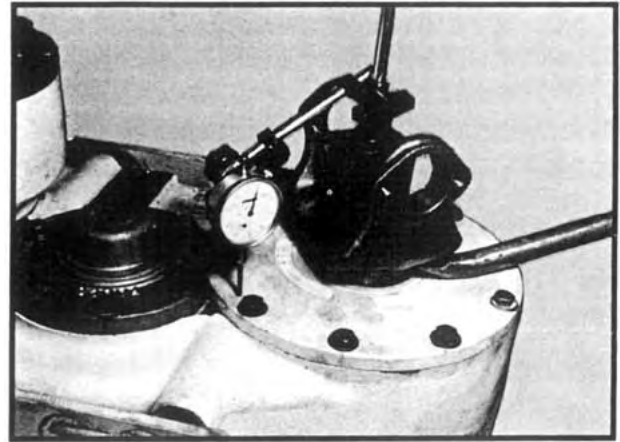

Fig 66
2. Insert the rear bearing cup into its bore. Using the original shim pack, install the rear cap to the transfer case housing. The two slots in the carrier must lineup with the two non-tapped holes in the housing. Secure with the (6) cap screws and washers. Torque to specification.
4. Make sure that the rear bearing cup is still in place. Position a new gasket on the transfer case housing and lower the upper shaft assembly into place. The work "TOP" on the carrier must be toward the top of the transfer case as installed in the vehicle. Install the (10) cap screws and washers. Torque to specification.
5. Mount a dial indicator on the shaft as shown in Figure 66. Pry the shaft up and down several times to be sure that the rear bearing cup is seated. Note the indicated shaft end float on the dial indicator. If the end float is not within specification (.003 to .008 in.), the shim pack should be removed and replaced with a combination of shims which will provide the specified end float. See item 13 on P.5 in the parts manual for a list of available shims. Be sure to recheck the end float afterwards.